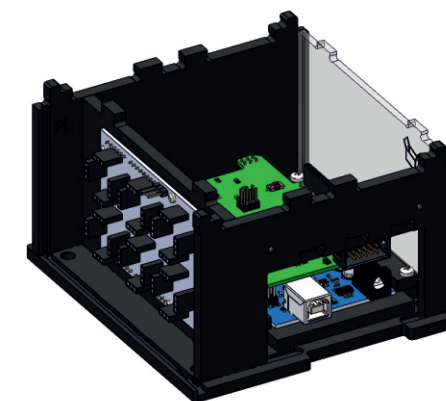

Fig. 43: Mounting a transparent panel
10) Mount the transparent panel on the bottom base plate. To do that, slide the panel along vertical guide rails in walls until it touches the base plate, then latch it (Fig. 43):